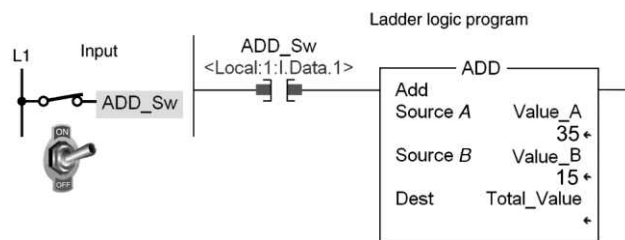

Figure 15-41 ADD instruction rung for question 2.
2. For the ADD instruction rung shown in Figure 15-41, the value stored in Dest would be 2. _____